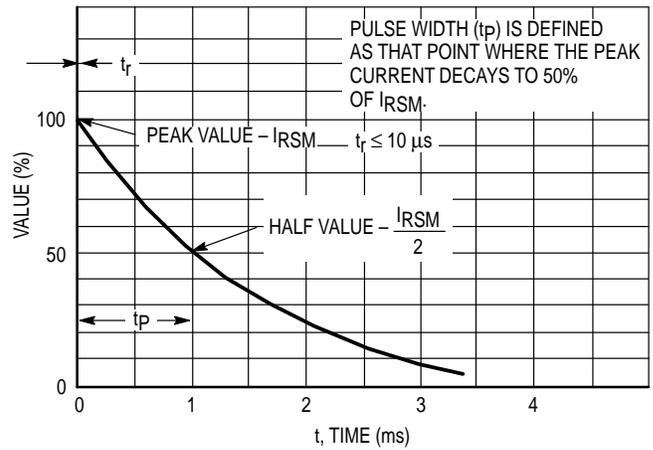
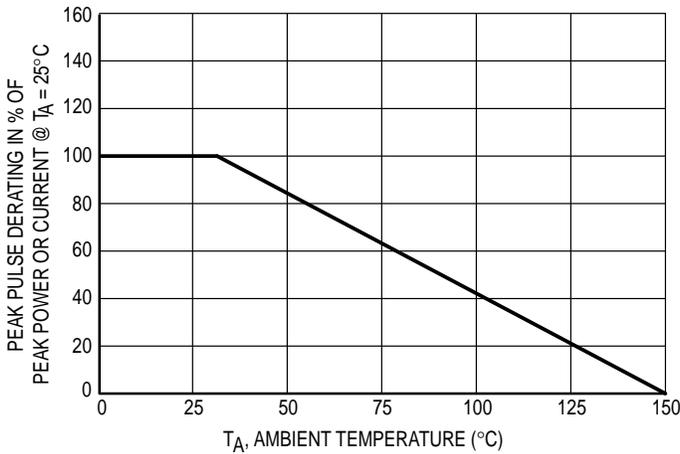

Figure 2. Pulse Waveform
Figure 3. Pulse Derating Curve
NOTES: 1. Nonrepetitive current pulse per Figure 2 and derated above $T_A = 25^\circ\text{C}$ per Figure 3.
| Device†† | Reverse Stand-Off Voltage V_R Volts (1) | Breakdown Voltage* | | Maximum Clamping Voltage V_C @ I_{pp} Volts | Peak Pulse Current (See Figure 2) I_{pp}^\dagger Amps | Maximum Reverse Leakage @ V_R I_R μA | Device Marking |
† Surge current waveform per Figure 2 and derate per Figure 3 of the General Data — 1500 Watt at the beginning of this group.
I_{pp} Peak Pulse Current — See Figure 2